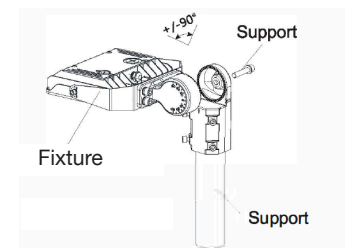

Fig. 4.4
1. Connect power wire in pole. Fasten the locking bolts between slip fitter and the pole (Fig. 4.4).
2. Loosen the fixing bolts and adjusting bolts, adjust fixture angle as required. Tighten angle adjusting bolt and fixing bolts after the angle is correct (Fig. 4.4).